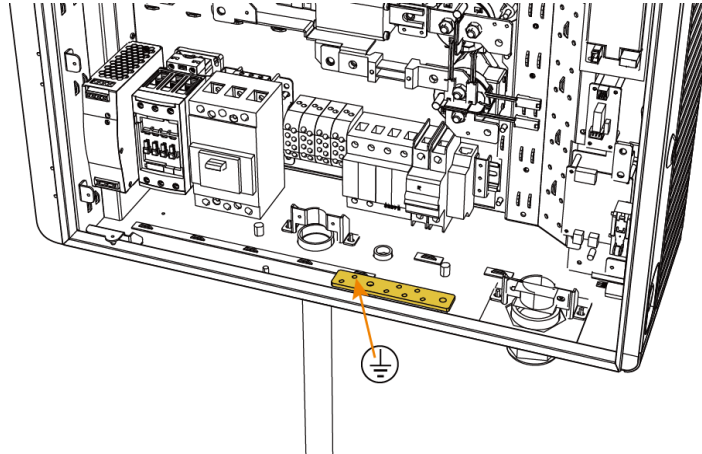

**FIG 18: REMOVE THE CABLE CLAMP AND PC COVER PLATE**
**Step 9:** Open the front door, remove the cable clamp and PC cover plate as shown in FIG. 18.